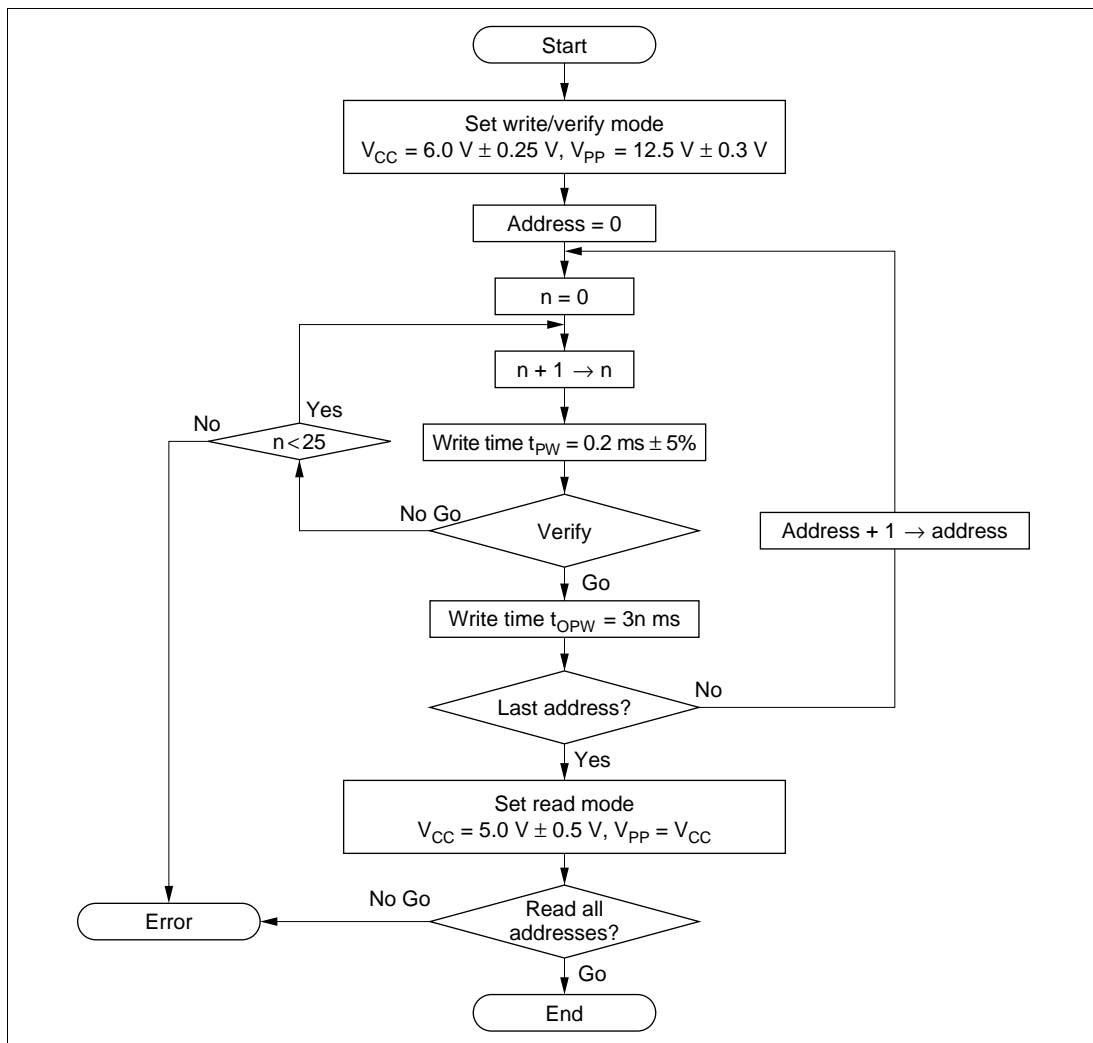

Figure 6.4 High-Speed, High-Reliability Programming Flow Chart
An efficient, high-speed, high-reliability method is available for writing and verifying the PROM data. This method achieves high speed without voltage stress on the device and without lowering the reliability of written data. Data in unused address areas has a value of H'FF. The basic flow of this high-speed, high-reliability programming method is shown in figure 6.4.
3. t_{OPW} is defined by the value given in figure 6.4, High-Speed, High-Reliability Programming Flow Chart.